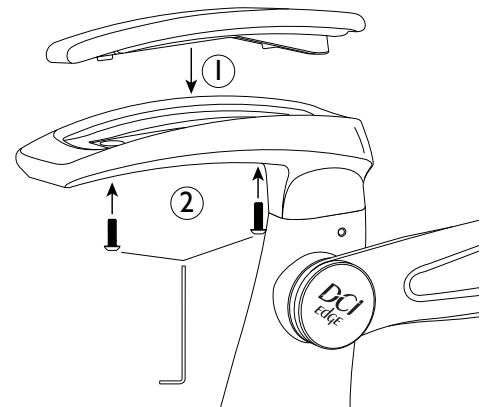

Figure 14. Attaching the 54957 armrest cushion
- 1** Press on the Cushion (Figure 14, item 1) directly above the inserts in order to start the screws.
- 2** Attach the armrest cushion to the armrest using two 69055 Screws and a 1/8" L-Key (Figure 14, item 2).